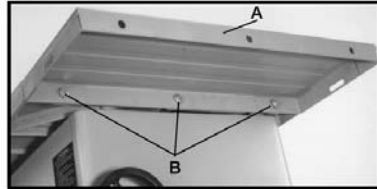

Fig. 8
1. Assemble extension wing (A) Fig. 8, to the saw table using the three screws and washers (B). With a straight edge (C) Fig. 9, make sure the extension wing is level with the saw table before tightening the three screws (B) Fig. 8.